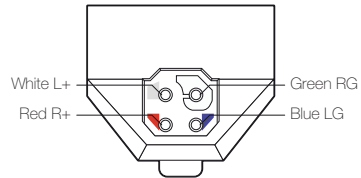

Fig. 3
2. Note colours and channel indications on rear side of the body for correct connection of the tone arm leads. (fig. 3)